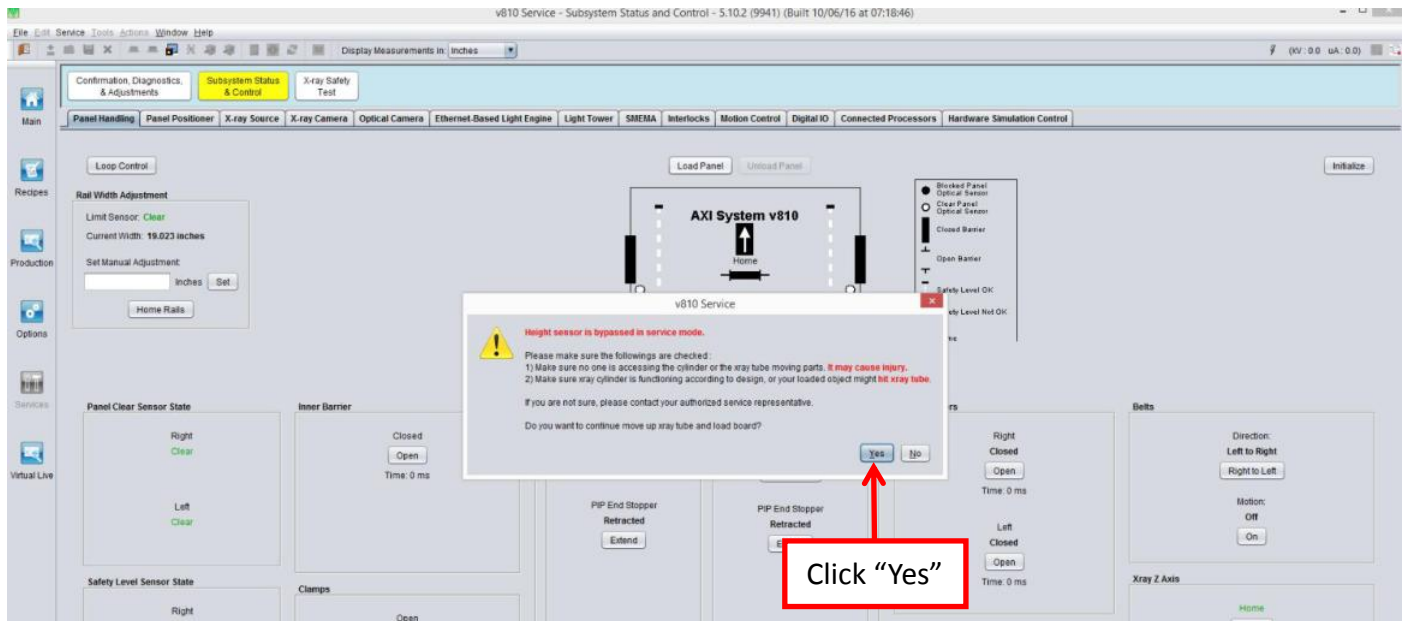

Figure 17 Panel Handling (Warning Message)
6. Click “Yes” when “Warning Message” prompt out as shown in Figure 17.